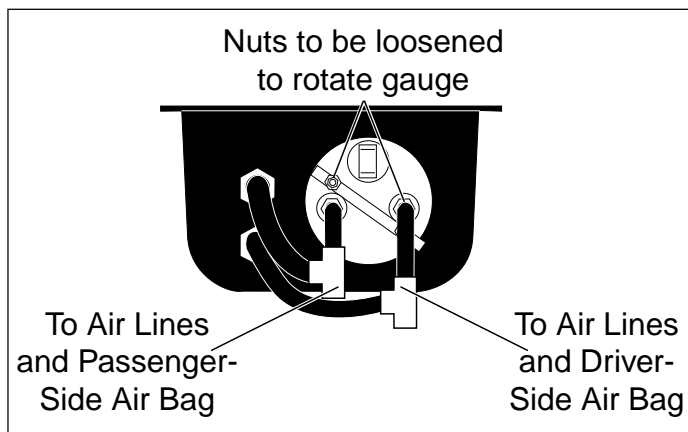

Figure 2
3. If you choose to rotate the panel, loosen the two silver nuts located on the black bar across the back of the gauge (Figure 2). This allows the gauge to rotate.
5. Connect the line from the passenger-side air bag to the connector at the top of the rear of the gauge panel (Figure 2).
6. Connect the line from the driver-side air bag to the connector at the bottom of the rear of the gauge panel (Figure 2).